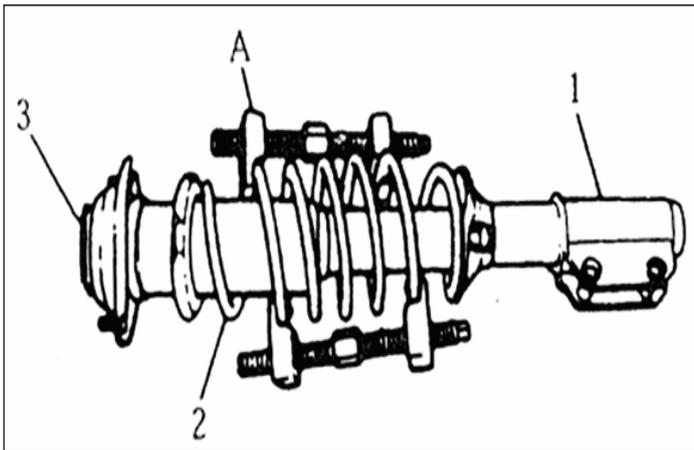

FIG.14-12
- (1) Use the special tool (A) to compress the coil spring until the strut assembly can rotate slightly (FIG.14-12).